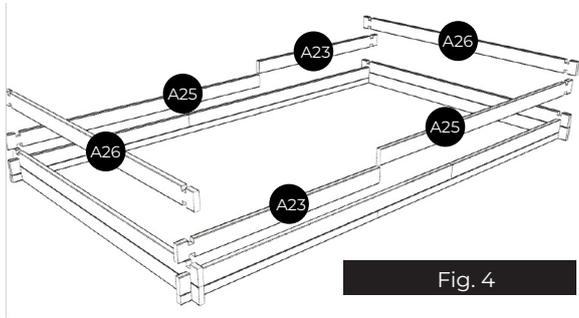

Fig. 4
**ROW 3 BOARDS:** Install the boards for the third row as shown in Figure 4. Make sure to determine the placement for the return nozzle and the skimmer right from the start (refer to the specific sections for details).